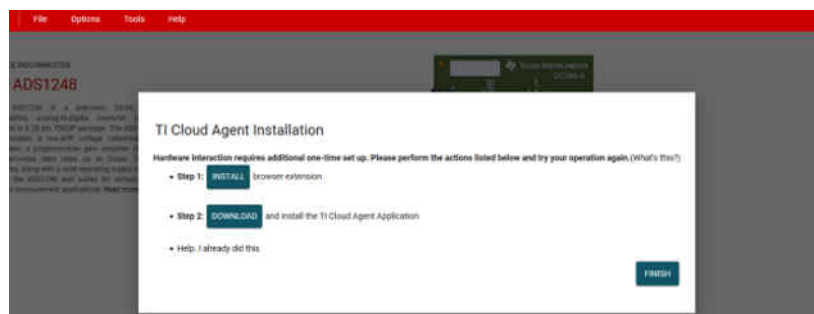

Figure 4-1. Browser Extension and TI Cloud Agent Installation
- a. First-time users may be prompted to download and install the browser extension for Firefox™ or Chrome™ and the TI Cloud Agent Application as shown in Figure 4-1. Installing the TI Cloud Agent is a one-time download and installation.